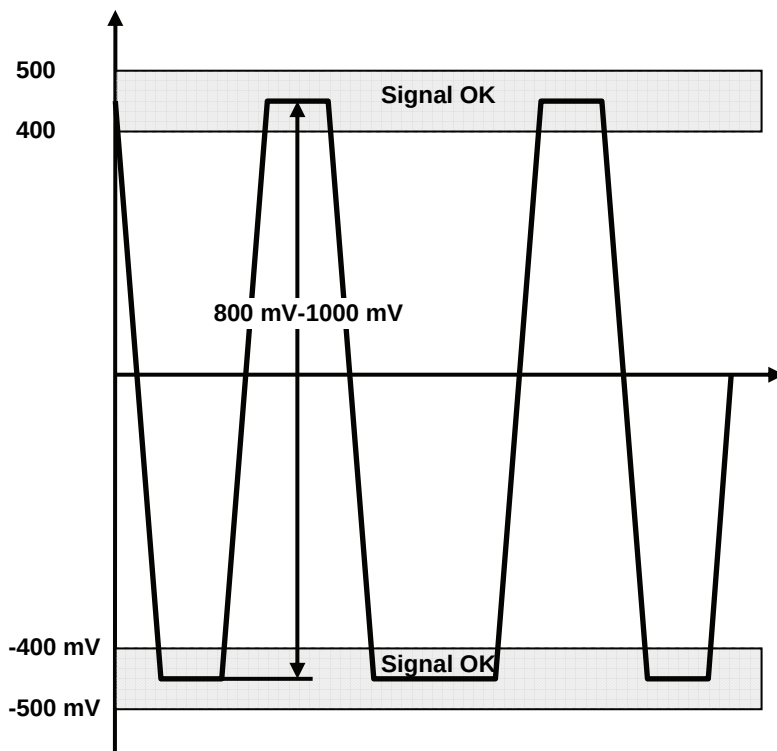
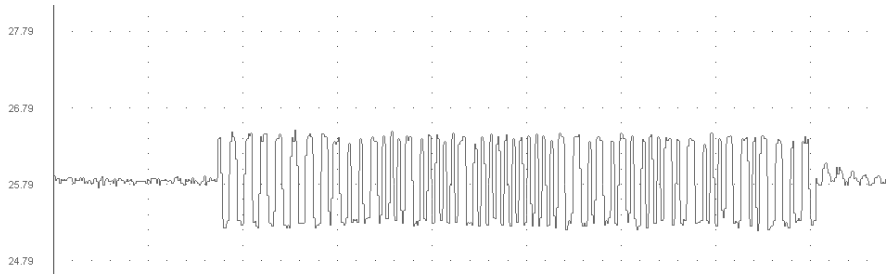

Fig. 11: Ideal signal form PROFIBUS MBP (PA)
Fig. 13: Measurement PROFIBUS MBP (PA) (1 telegram)
In practice you will never encounter an ideal signal form as shown in Fig. 11.. In Fig. 13 is shown of what a data telegram can really look like on the PROFIBUS MBP (PA).